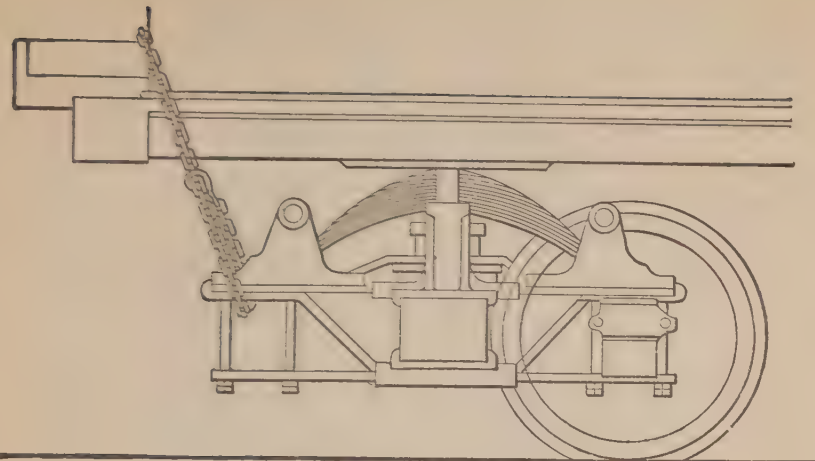

Fig. 205. Broken Tender-Wheel.
A. See page 339; also figure 205.